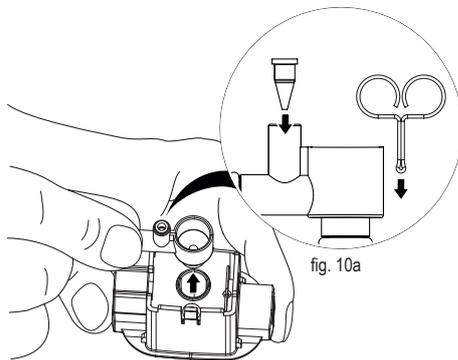

fig. 10: Removing the milk frother nozzle
10. Hold the milk frother nozzle at the supply connection and pull it out of the coffee-milk dispenser towards the top (fig. 10).